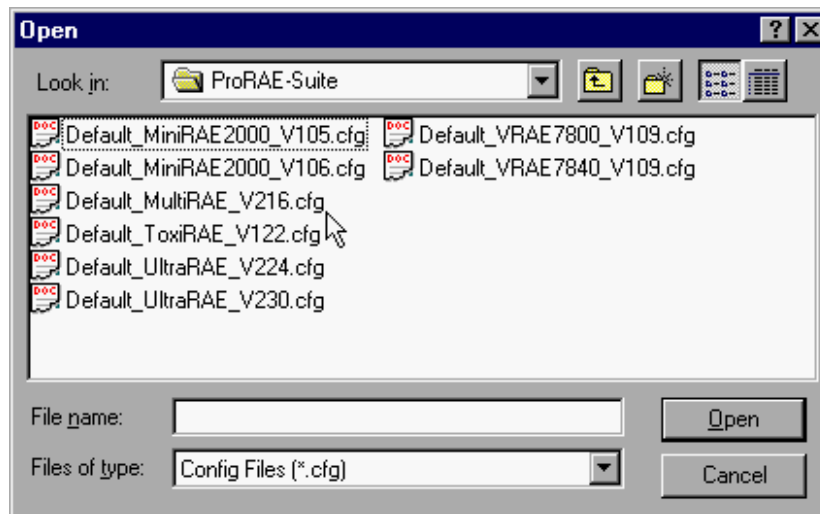

Figure 5-5 Open Dialog Box
**To load a saved configuration file:** From the main menu, select **Open** from the **File...** dropdown menu, a dialog box appears. Select the “Files of type:” to Config Files [\*.cfg], as shown in Figure 5-5.